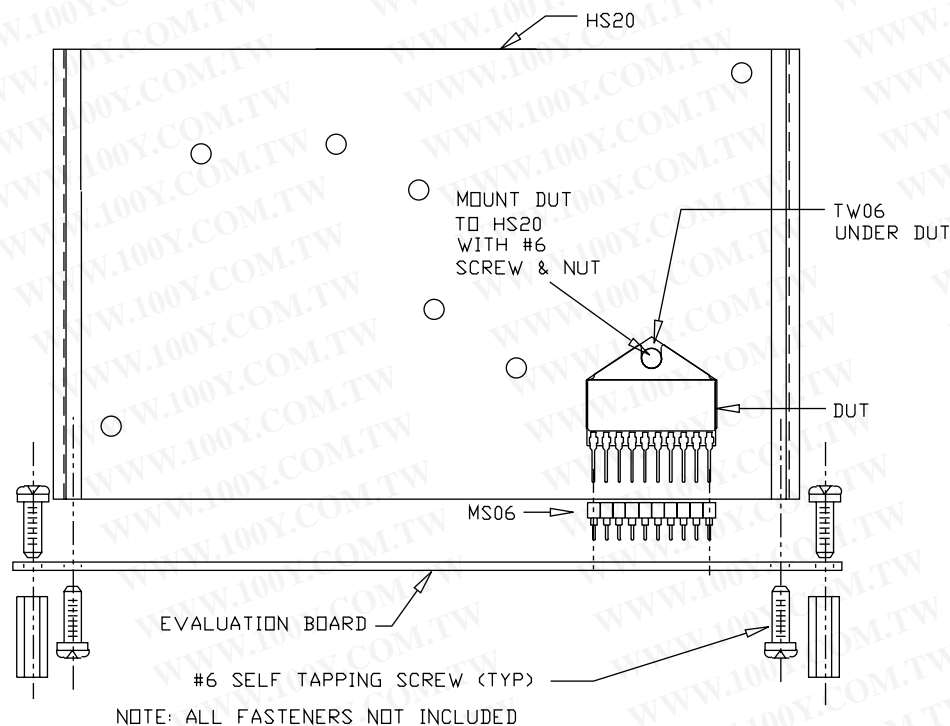

FIGURE 1.
5. Install leads of the DUT into the MS06 on the evaluation board. Use #6 self-tapping screws to secure the evaluation board to the HS20 heat sink as shown in the assembly diagram (Figure 1).